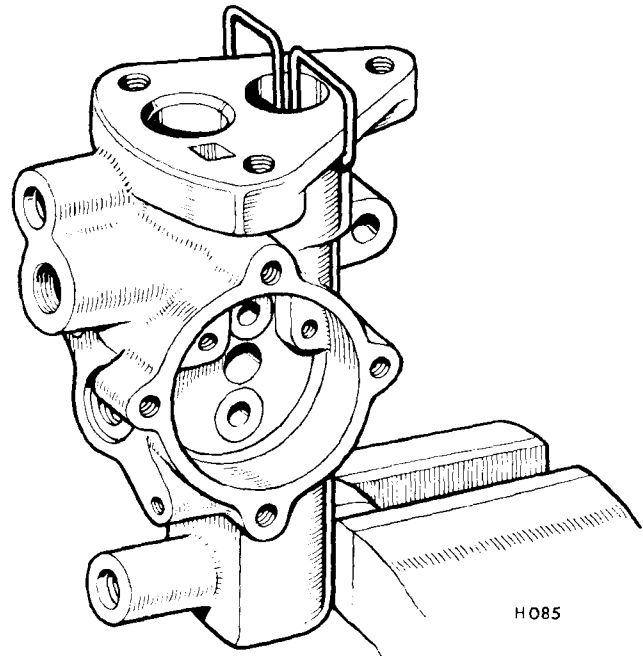

Fig. 41. Removing output piston
Depress the piston (26) using the piston compression tool (Fig. 44) as shown in Fig. 41: clip the ends of the tool under the edge of the body.